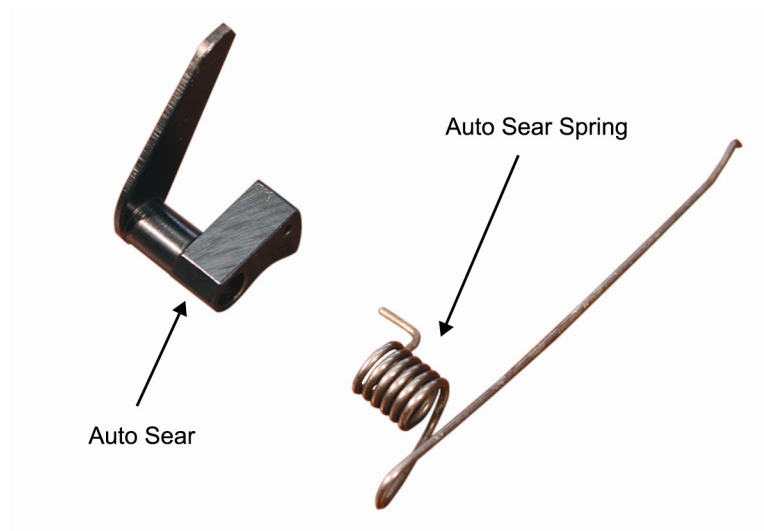

Figure 26. The Auto Sear Spring Removed from the Auto Sear.
- n. Remove the auto sear spring from the auto sear. Refer to Figure 26.